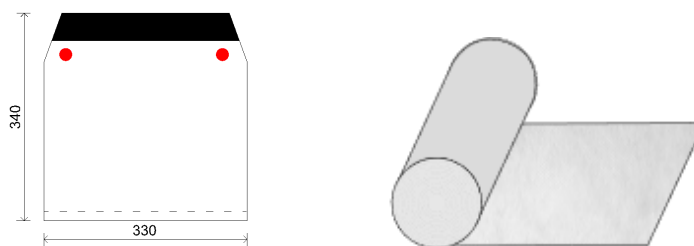
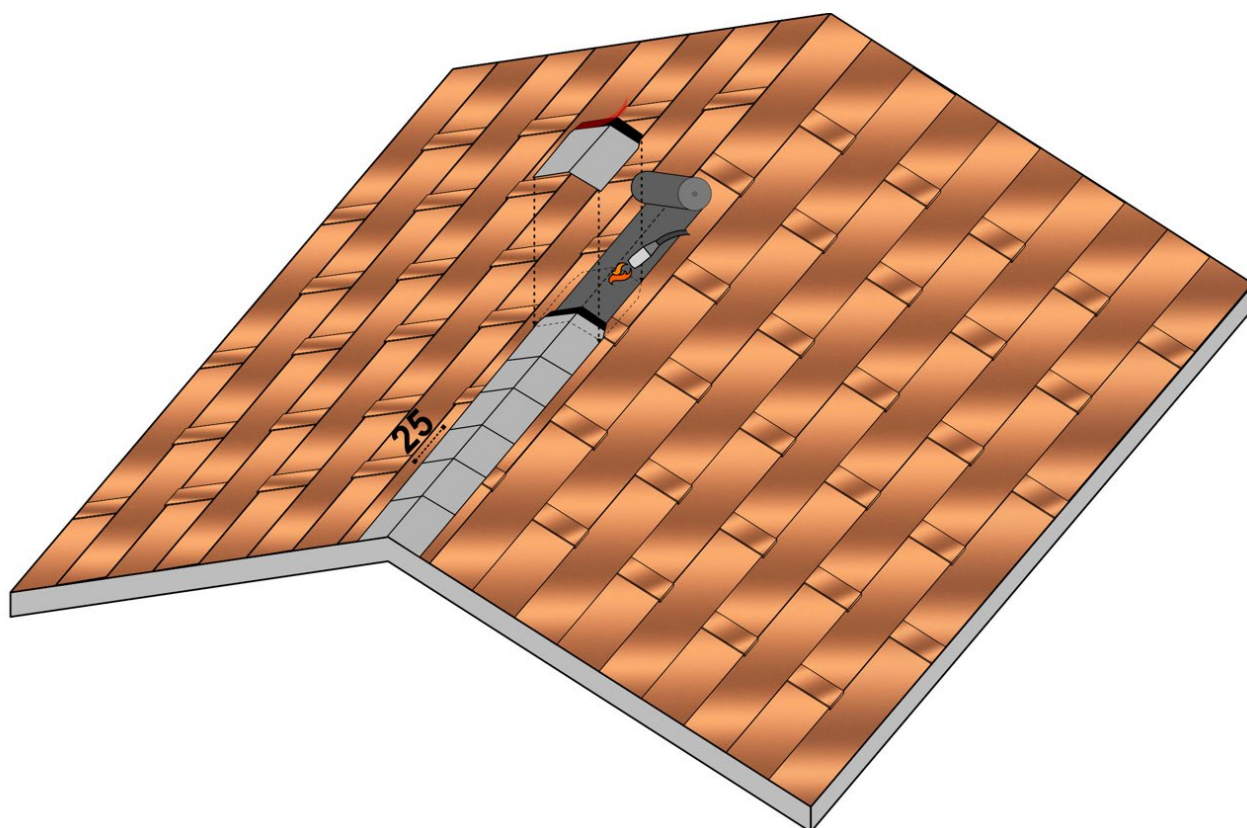

Fig. 13 - Prestige Compact Ridge box contents
Fig. 24 – Ridge elements installation
- For the execution of the ridge, take the Prestige Copact Ridge box and remove the Top Roll Colmo SA and the ridge components, which are already cut and shaped, contained within it - Fig. 13.
- For the ridge installation, take the Prestige Plus Ridge Box containing the pre-cut and shaped ridge elements – see Fig. 13. Note that, in this case, the roll of Top Roll Ridge SA contained in the box will not be used. Instead, apply a strip of Safety EPP bituminous membrane with a torch to the ridge – see Fig. 24.
- Install the prepared ridge elements, securing them to the underlying membrane with the torch flame, always heating the membrane and not the shingle element. Continue installing the remaining ridge elements in sequence, leaving an exposed section of 25 cm between each element, as shown in Fig. 24.